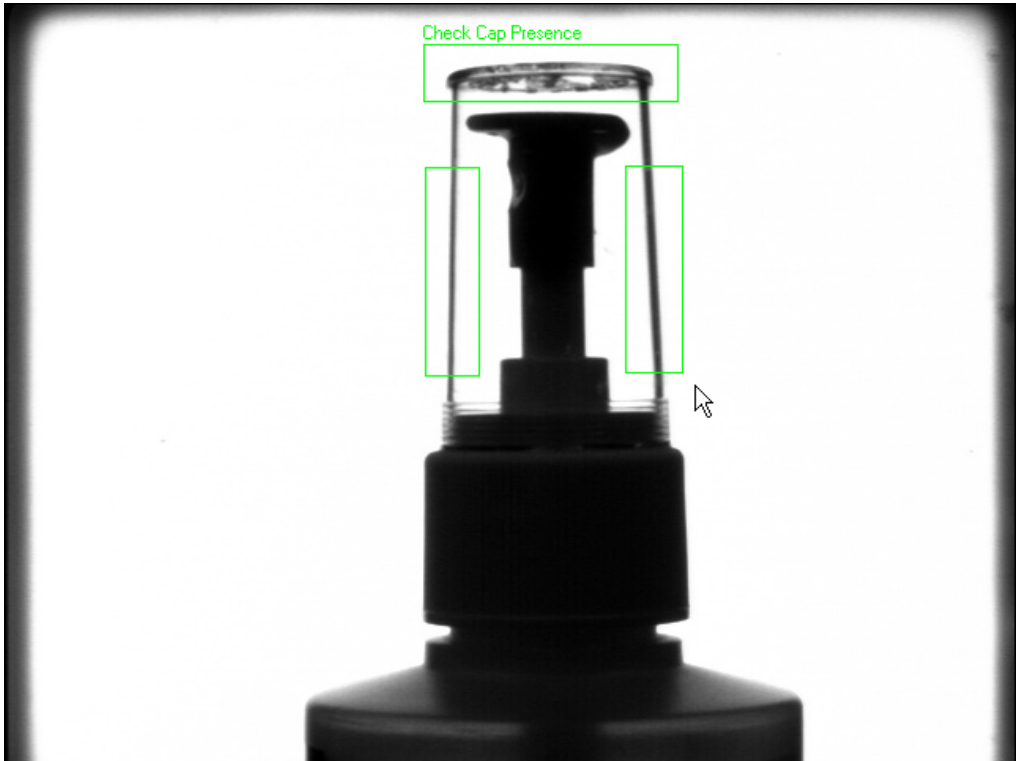

Figure 2-4. Defining Regions in Which to Measure Intensity
5. Using the default **Rectangle Tool**, hold down <Ctrl> to enable drawing multiple regions of interest, and draw three regions of interest that enclose edges of the cap, as shown in Figure 2-4.